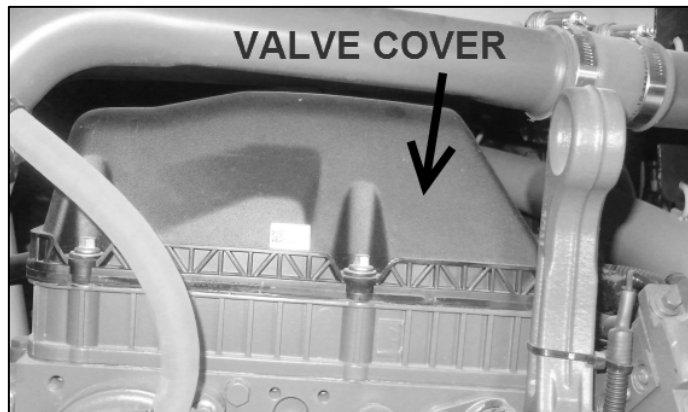

FIG 1
1. On the top of the engine valve cover (fig 1), check engine family number first character on the engine information decal and write down the letter.